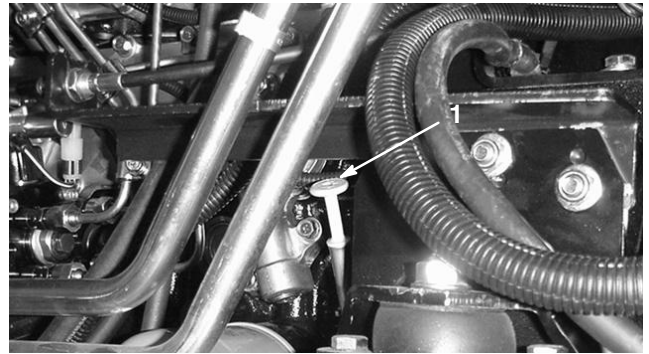
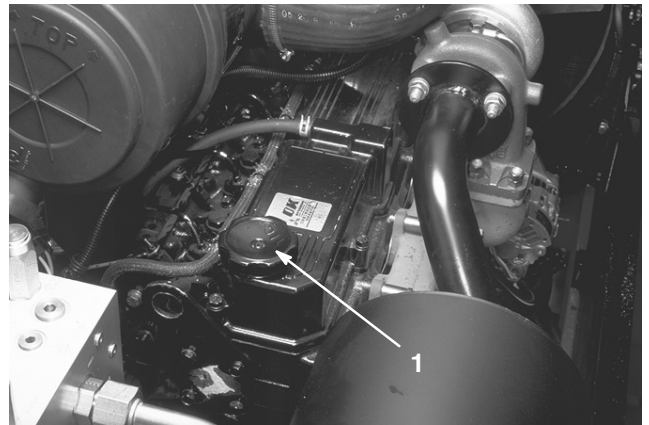
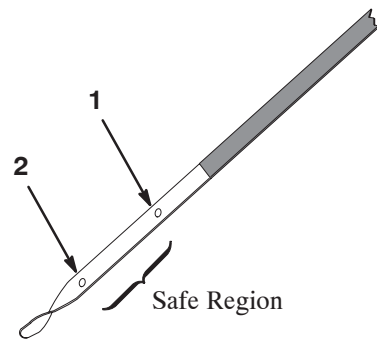

Figure 37
Figure 38
Figure 39
2. Remove dipstick, wipe with clean rag (Fig. 37) and fully insert in tube. Level should be between the lower and upper holes on the dipstick (Fig. 39).
3. If level is low, remove filler cap (Fig. 38). Add proper type of oil until level is between the holes on the dipstick (Fig. 39). **Do not overfill.**